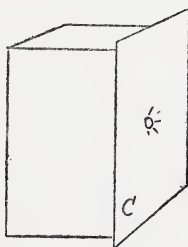

Fig. 22.
2. Now hang up against a wall (or fix with drawing pins to the door) a smooth white sheet, table cloth, or large piece of white card or paper. Now on this with the spread-out fingers cast a shadow, and notice that the smaller the shadow the sharper its outline. Try holding a somewhat thin lantern slide or negative two or three inches away from a sheet of white notepaper. The fine details of the subject are already lost in the shadow, and the light hardly gets through the darker parts of the slide or negative at all. We therefore want more light and sharper detail effect. Take a sheet of card C or stiff brown paper a little larger than the open side of the packing case, and just on a level with the lamp flame make a small hole in the card about the size of a threepenny piece. Bring the lamp close up to this opening. Repeat the experiment of casting a shadow on the sheet with the fingers. With the smaller source of light (fig. 22) we get a sharper outline to our cast shadows. If a lantern slide is held about an inch or so from a piece of white card we shall be able to see the
5. Now let us take any convex lens, such as a good sized hand reading glass set in a rim, and with a handle; or we may use either half of a symmetrical doublet camera lens if it is of fairly large size. Return to the arrangement shown in fig. 22, where we have a (comparatively) small source of light. Holding the lens in the left hand and a piece of card in the right find such a position of lens and card, so that when the lens is held still and the card moved towards and away from the lens